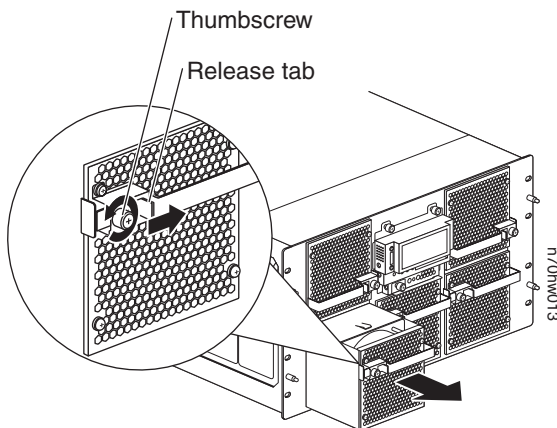

Figure 20. Removing the fan module
3. Press the release tab on the target fan module, and then pull the handle toward you to remove the fan from the chassis. Make sure that you support the fan with your free hand. See Figure 20.